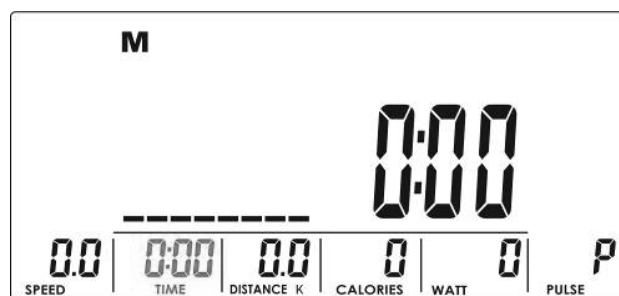
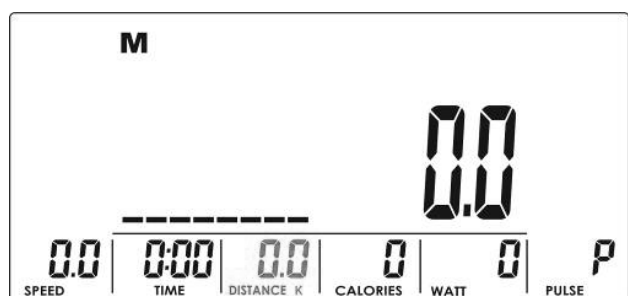
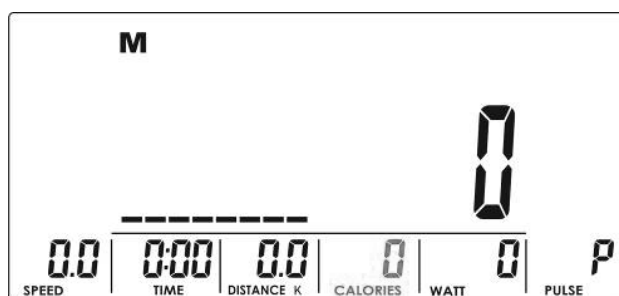
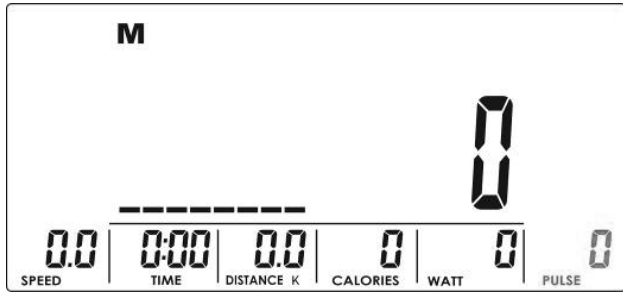

Fig. 5
Fig. 6
Fig. 7
Fig. 8
3. Enter the values for training time (fig. 5), distance (fig. 6), calories (fig. 7) and pulse (fig. 8) with the jog dial and confirm each setting with MODE.